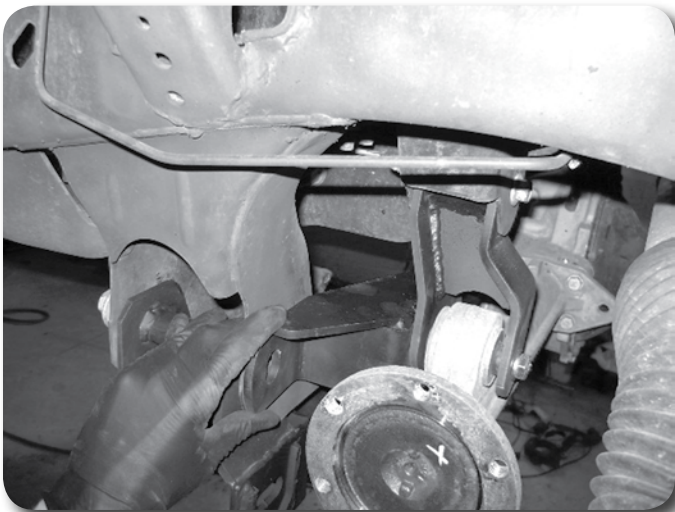

Figure 25
42. Install the provided differential support bracket to the passenger's side differential bracket using the hardware that was just installed and an additional 12mm x 30mm bolt. Attach the other end to the rear crossmember bolt. It is necessary to remove the bolt and reinstall it. Leave hardware loose. (Figure 25 / 26)